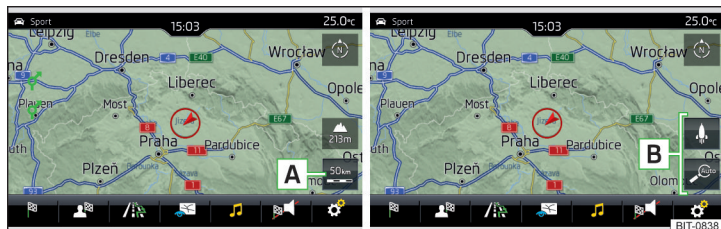

Fig. 196 Function surfaces for changing the map scale
► Tap the function surface **A** » Fig. 196.
In area **B** » Fig. 196, function surfaces for changing the map scale are displayed.